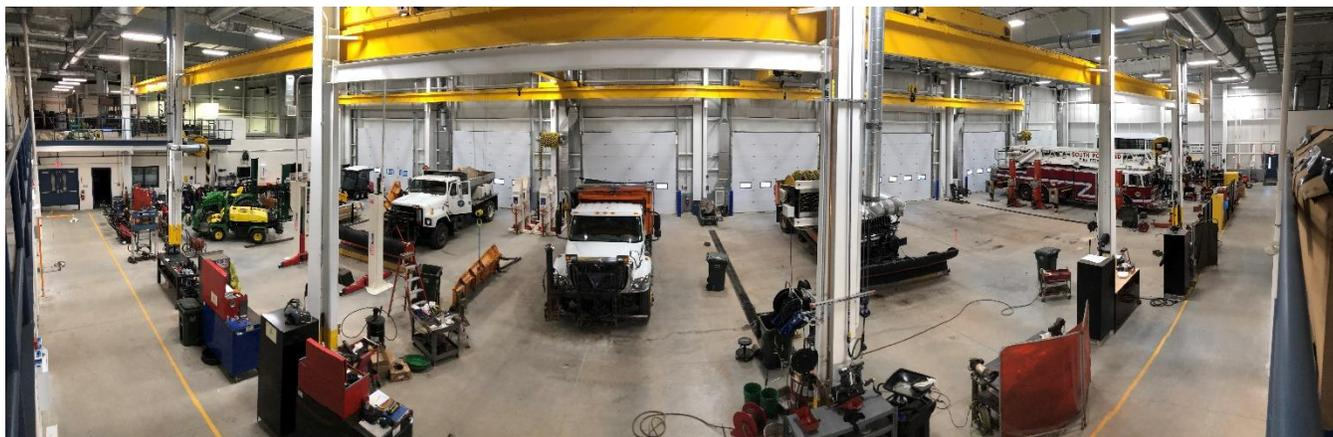

Figure 9: panoramic view of the Fleet Maintenance area's seven garage bays
- ****Garage Bays** (Figure 9) have up to several 55-gallon drums of various petroleum products on